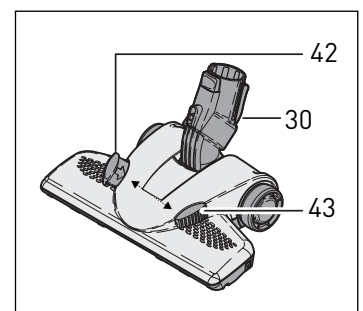

Figure 14
Combination nozzle - Figure 14
The Combination nozzle (30) is adjustable for carpet or hard floors. To set for carpet, slide the up arrow button (42) to the right until it clicks into place. The hard floor dusting brush will raise up allowing the head to move over the carpet. To set for hard floors, slide the down arrow button (43) to the left until it clicks into place. The brush will lower to gently sweep your floors. **The slider in Figure 14 is set in the position for hard floors.** The brush should be cleaned regularly. Remove the Combination nozzle from the telescopic tube to clean. Fibers and hair can be pulled out of the bristles manually, or vacuum the bristles with with the telescopic tube. The brush strip is removable for cleaning and replacement.